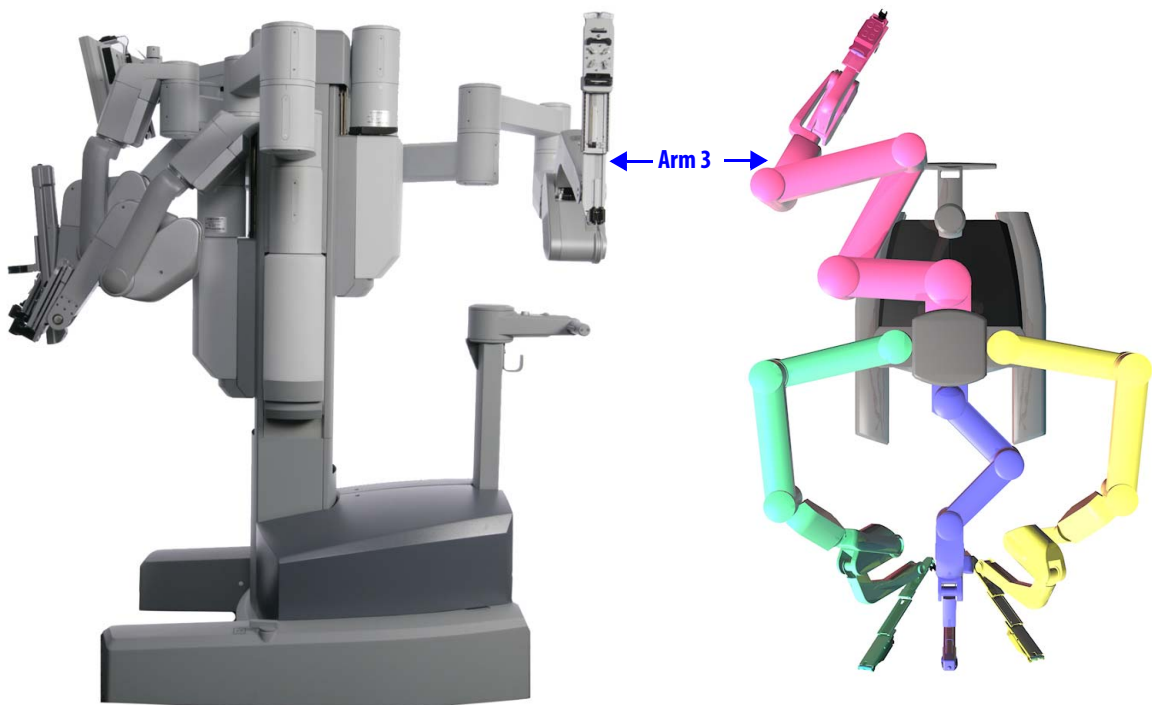

Figure 5.6 Arranging instrument arm 3 for stow position
2. Arrange the setup joint links as pictured in Figure 5.6.